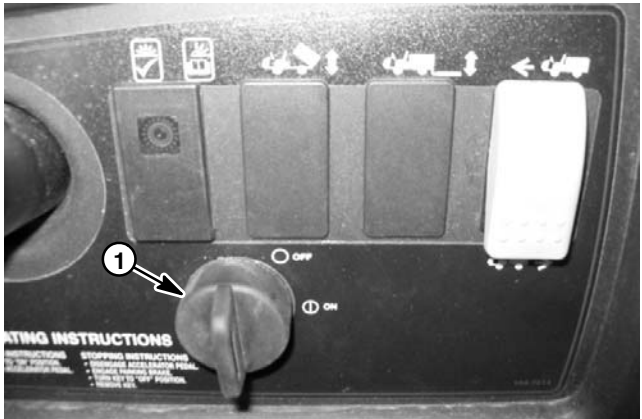
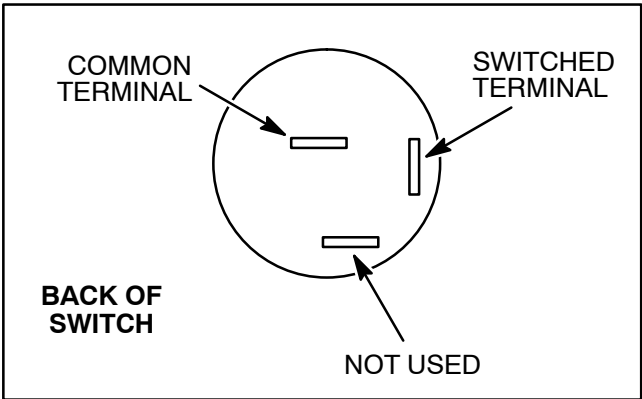

Figure 17
Figure 18
The Workman on/off switch is located on the dash panel (Fig. 17). The switch has two (2) positions (OFF and ON) and three (3) switch terminals. Only two of the terminals are used on the Workman e2050 and e2065. The switch terminals are positioned as shown in Figure 18.